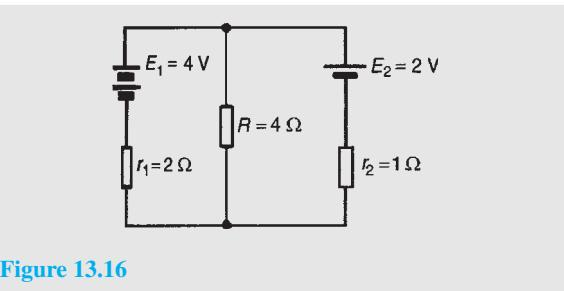

Figure 13.16
**Problem 5.** Figure 13.16 shows a circuit containing two sources of e.m.f., each with their internal resistance. Determine the current in each branch of the network by using the superposition theorem.